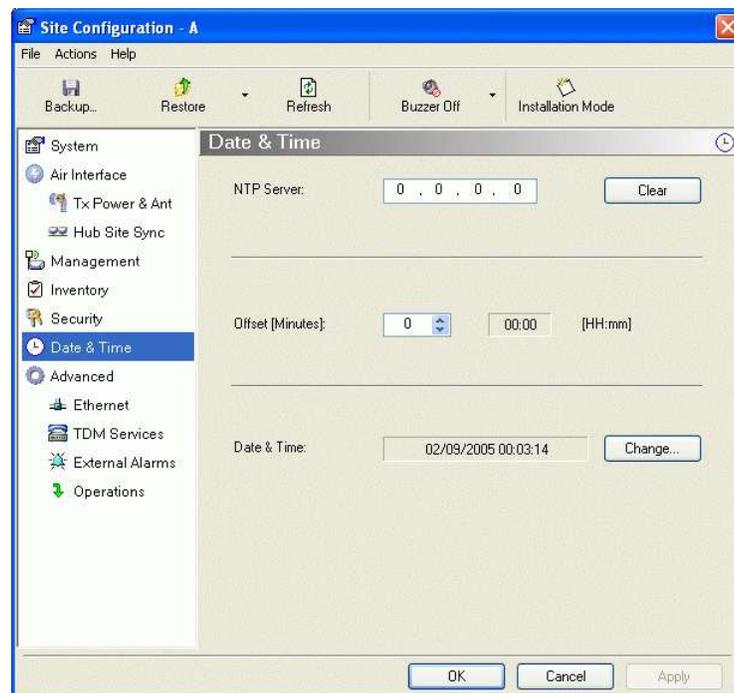

Figure 4-41. Date and Time, NTP Synchronization
3. Select Date & Time (see Figure 4-41).